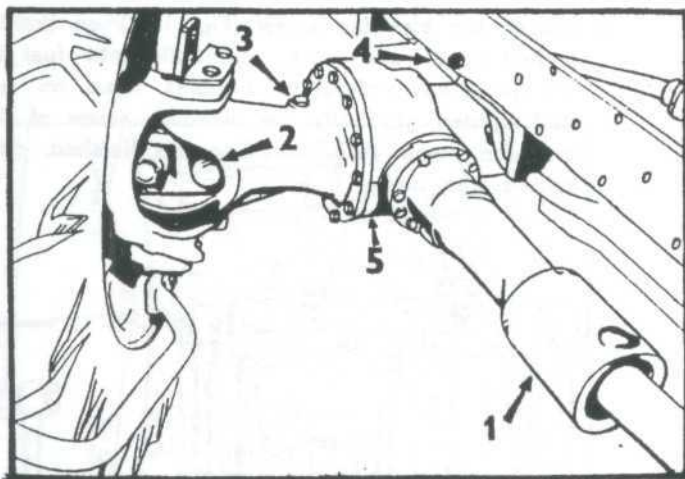

Fig. 16
- Front drive axle body filling plug (Fig. 16/3)
- Front drive axle body oil drain plug (Fig. 16/5)